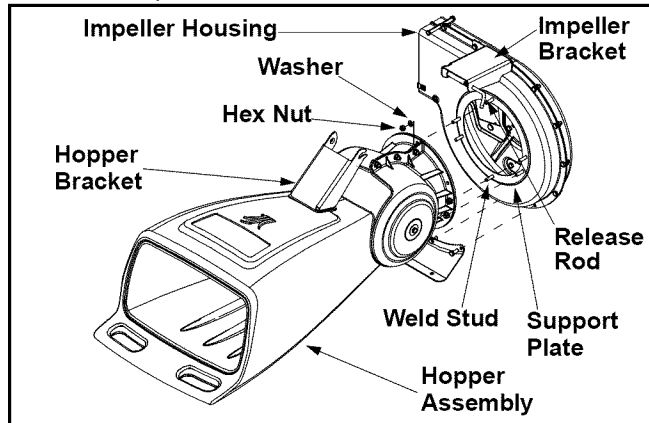

Figure 2
- Remove six hex nuts and washers from the weld studs on the impeller housing. Do not remove the support plate. See Figure 2.
- Lift hopper assembly up to impeller bracket assembly and slide the release rod out slightly to hook the hopper bracket onto the rod. See Figure 2.